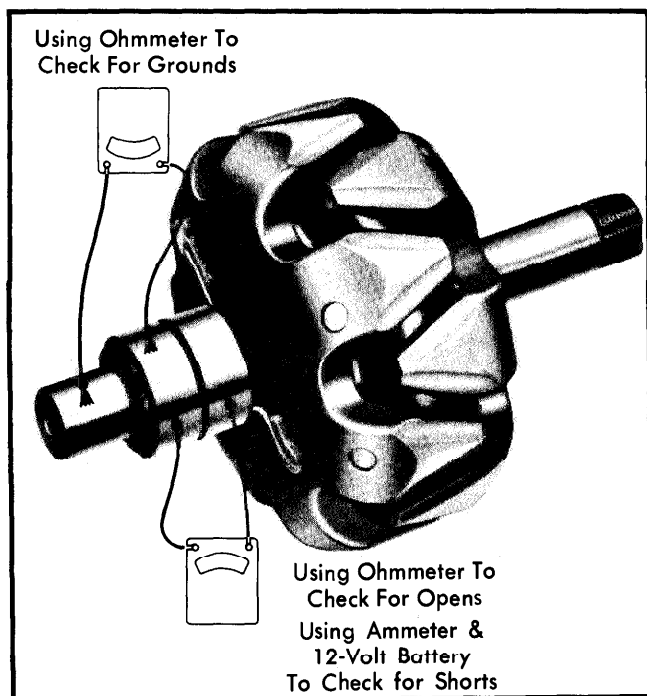

Fig. 11 Bench Testing Rotor for Opens, Shorts and Grounds
1) Check rotor for grounds or an open circuit, using either a 110 volt test lamp or an ohmmeter set at the x 1000 scale. See Fig. 11. To test for grounds, touch leads to rotor shaft and, in turn, to each slip ring. No continuity should exist with either slip ring or test lamp should not light. If lamp lights or continuity is shown, check soldered connections at slip rings. Replace rotor if wiring connections are all right.
3) To test for shorts, connect a 12 volt battery and ammeter in series with both slip rings (or an ohmmeter may be used). See Fig. 11. Current draw should be 3.5-5.0 amps (4.0-4.5 amps. for heavy-duty alternator). Ohmmeter resistance should be 2.5-3.0 ohms (2.75-3.0 ohms for heavy-duty alternator). Ex-